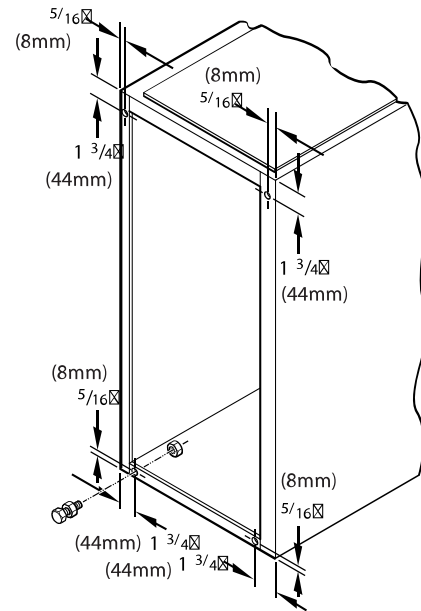

Fig. 10 – Leveling Legs
In upflow position with side return inlet(s), leveling legs may be used, see Fig. 10. Install field-supplied, 5/16 x 1-1/2 in. (8 x 38 mm) (max) corrosion-resistant machine bolts, washers and nuts.
- Position furnace on its back. Locate and drill a hole in each bottom corner of furnace, see Fig. 10.